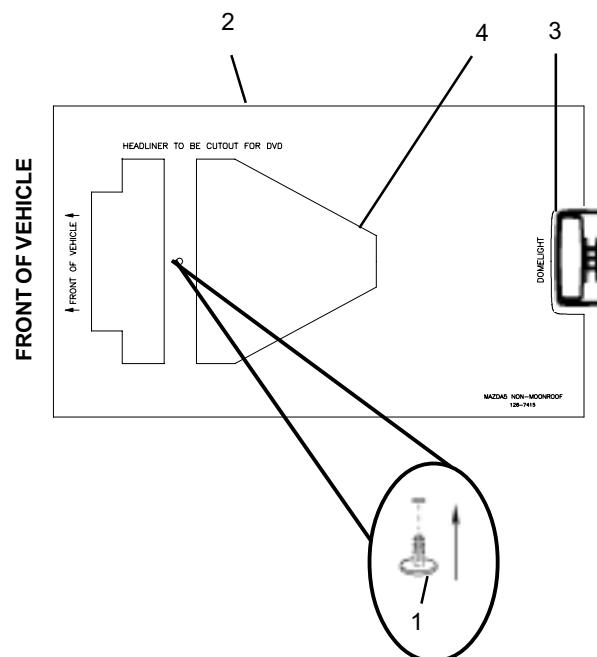

FIGURE 23
1. REMOVE THE HEADLINER PUSH PIN FORWARD OF THE REAR DOMELIGHT (1), ALIGN THE TEMPLATE (2) WITH THE FRONT OF THE REAR DOMELIGHT (3) AND REPLACE THE PUSH PIN (1) TO HOLD THE TEMPLATE IN POSITION. CAREFULLY TRACE THE DVD CUTOUT AREA(4) ON THE HEADLINER. REMOVE PUSH PIN (1) AND REMOVE THE TEMPLATE (2). (SEE FIGURE 23)